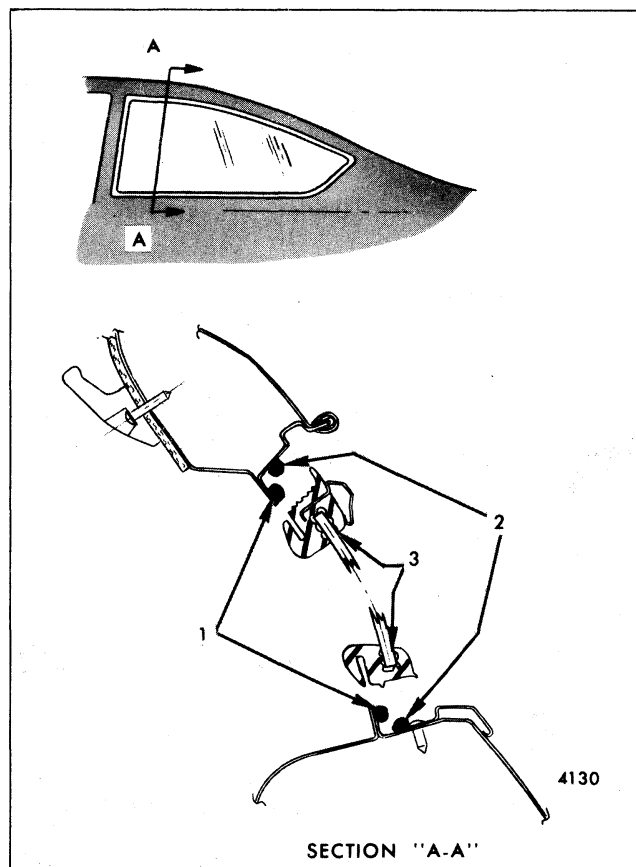

Fig. 11-13-Stationary Quarter Window Installation
The stationary rear quarter window on "H and X" styles and tailgate window on "A and H" styles is made of solid tempered safety plate glass and is retained in the body opening by a rubber channel. As shown in Figures 11-13 and 11-14, one cavity of the rubber channel retains the glass, another overlaps the window opening pinchweld flange and a third cavity retains the quarter window front and upper reveal moldings. In addition, the tailgate window rubber channel provides a cavity which incorporates a molding strip. To remove the reveal molding on the quarter window, it is necessary to remove the complete quarter window and rubber channel assembly from the window opening.
opening pinchweld flange ("1" in Fig. 11-13) completely around window opening.
5. Apply a second continuous bead of medium body sealer to window opening ("2" in Fig. 11-13) to seal outboard lip of rubber channel.
8. Using a pressure type applicator, apply black weatherstrip adhesive between outer lip of rubber channel and glass completely around rubber channel ("3" in Fig. 11-13).